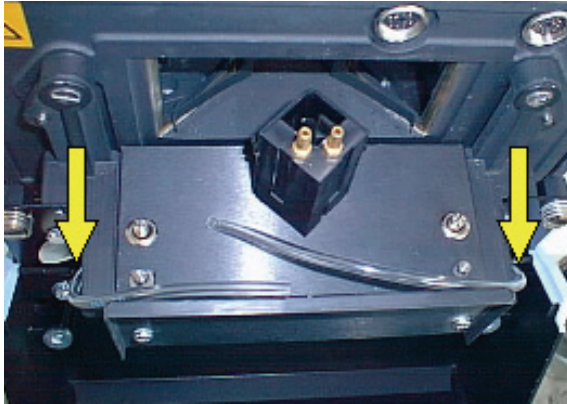

Figure 24 Routing the tubing
2. The tubing is then brought around the outside of the accessory bracket, as shown in Figure 24.